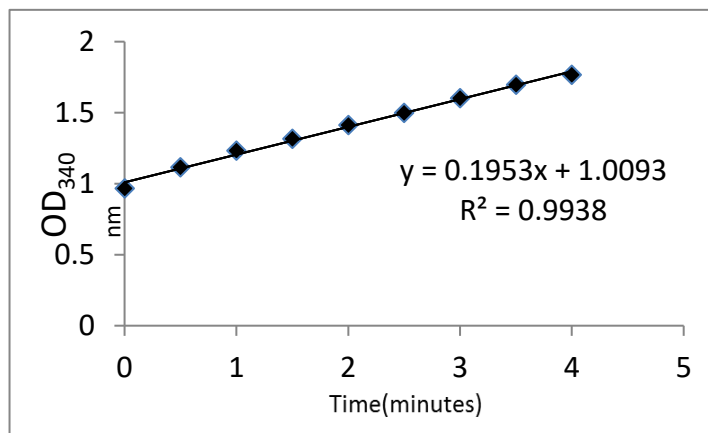

Figure 1 Absorbance change of diluted GST positive control at 340nm.
GST positive control is measured with the GST Assay kit after different time of reaction (Figure 1 and 2). The detection limitation is from 0.04 to 0.6 U/mL.
2. Add 90 μ L of working reagent mix into each well of the 96-well plate containing diluted GST positive control, samples and blank, mix well immediately and start recording $\text{OD}_{340\text{nm}}$ over a 4-minute interval, collecting data every 30 seconds. Figure 1 shows data of diluted GST positive control.